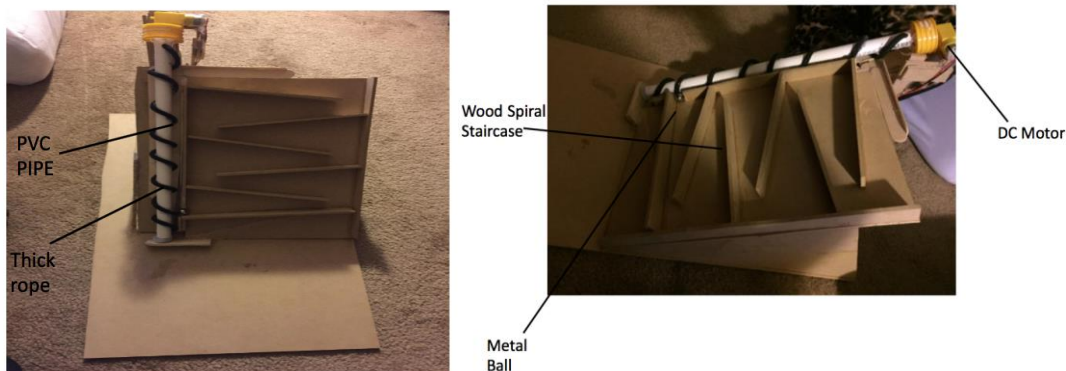

Figure 1: Different views of the spiral staircase step
Different views of the spiral staircase step design has been presented in **Figure 1**. As seen in the figure, A DC motor is connected to a PVC pipe and a thick rope is wrapped around the pipe in the spiral shape. As motor rotates, a ball will travel from the bottom to the top with the help of rope and falls on the stairs, and on the last stair there is a sensor that will turn off the DC motor and makes another servo move which will trigger the next step.
- PVC PIPE with thick rope attached to it as shown in the **Figure 1** above to work as Archimedean screw